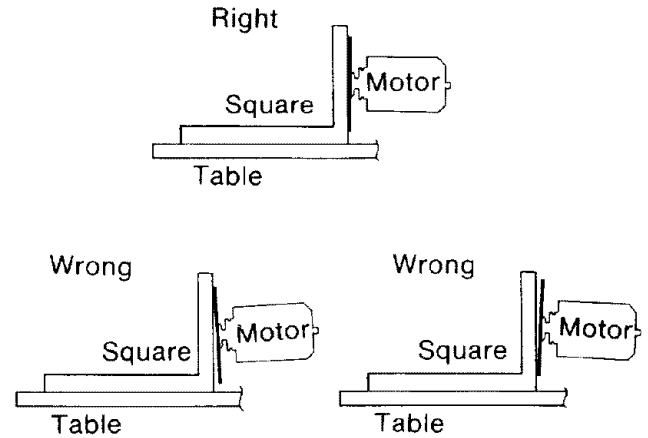

Fig. 108
5. If the square is flush with the *blade* after each rotation, no change is needed. (Figure 108) Go to the next section, or
If there is a gap between the square and the *blade* after any rotation (Figure 108), go to step 6.